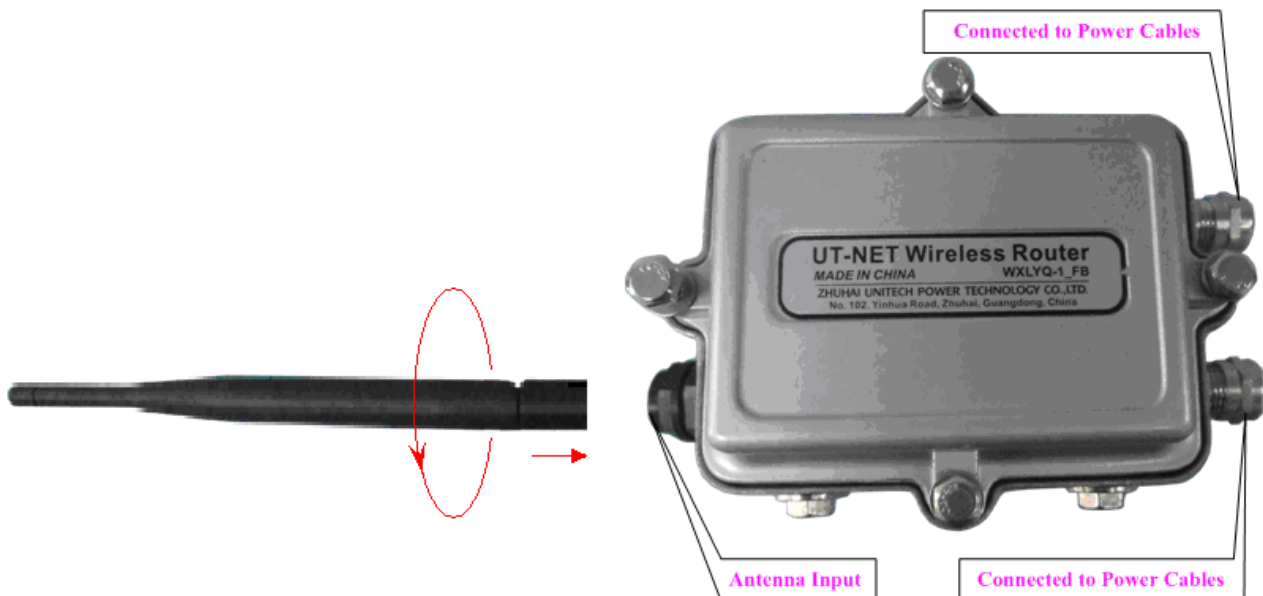

Figure 1
3. Install the antenna into the antenna input port as figure 1. Fix the router. Router comes with mounting bracket, the special bracket can be customized as needed. Turn the antenna to the vertically upward direction.